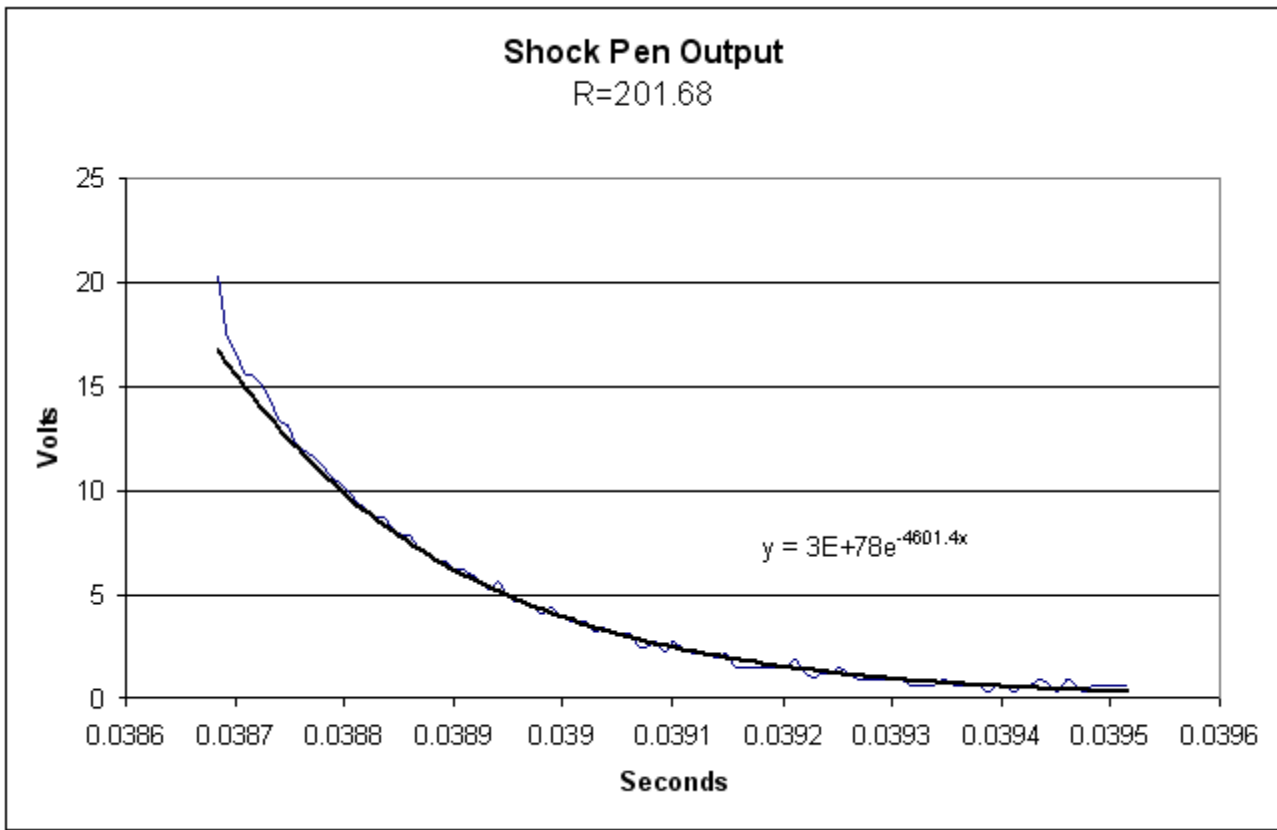

Figure 2. Pen Output For R = 201.68 Ohms.
1. A pulse was recorded and was fit with an exponentially decaying trendline as shown in Figures 2,3,4, and 5.